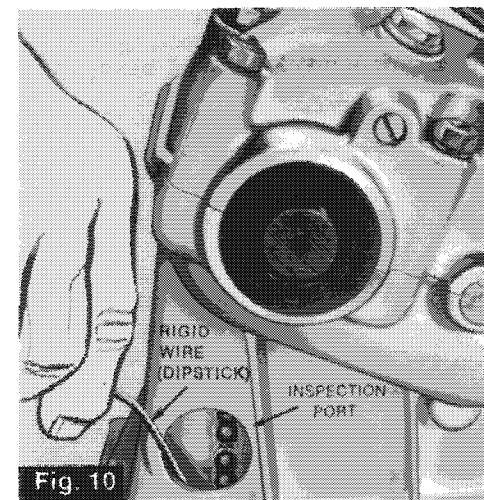

Fig. 10
2. Using a fairly rigid piece of wire as dipstick, check oil level. (See Fig. 10). On 399R and 399ER Models, level must reach  $2\frac{1}{4}$ ". On 640ER Models, level must reach  $3\frac{1}{4}$ " on dipstick.